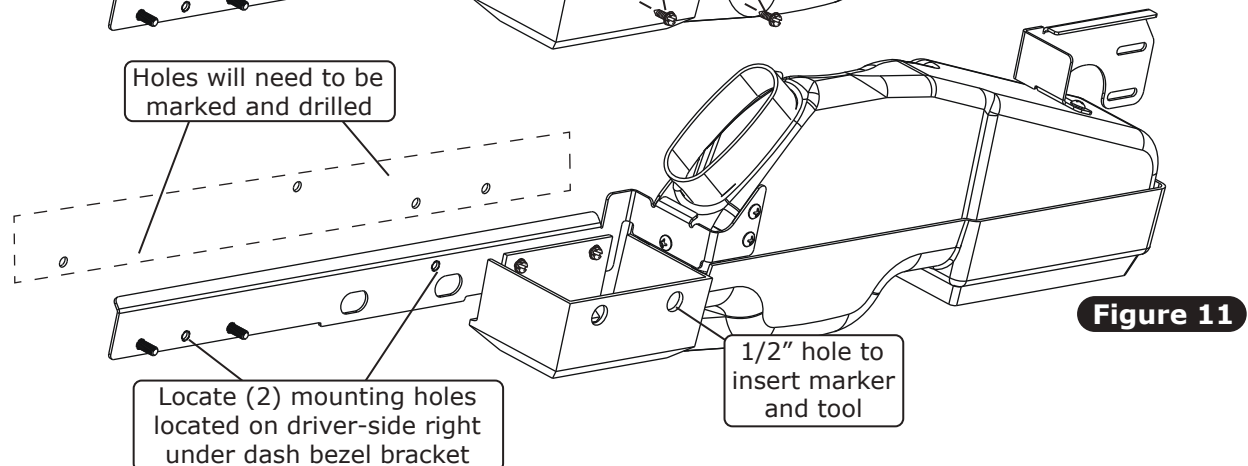

Figure 11
10. **Locate the (2) mounting holes on the right-side bracket, these two holes must be marked** under the dash, hold the assembly against the dash, make sure the bracket is aligned and parallel to the bottom of the dash. Once aligned, mark the two holes shown on Figure 11, these will be drilled on the next steps. **NOTE: The plastic assembly has a 1/2" clearance hole underneath to be able to insert a marker and later the tool to secure the assembly to the dash (See Figure 11, below).**